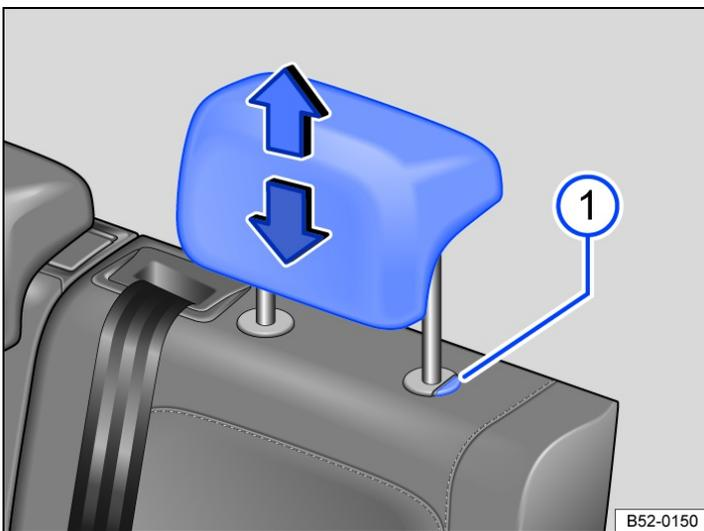

Fig. 2 Rear head restraint: adjusting.
— While pressing the button → Fig. 1 (2) or → Fig. 2 (1) if necessary, push the head restraint up or down in the direction of the arrows.